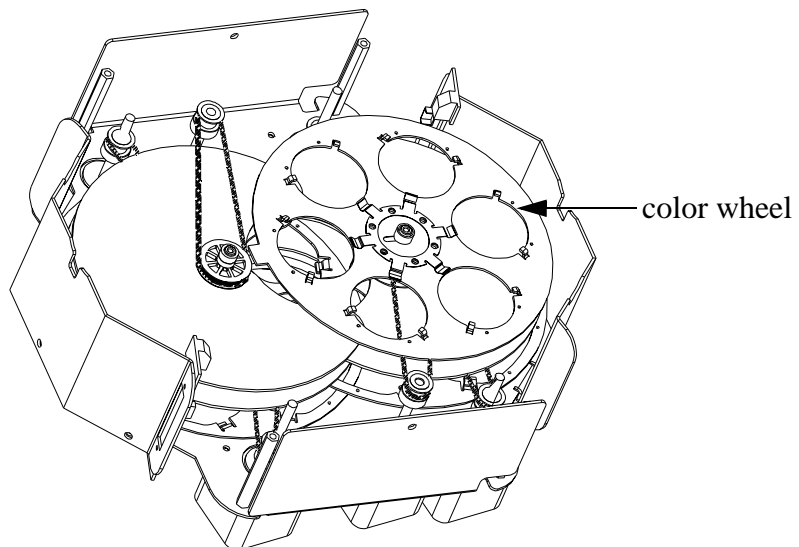

Figure B.4. Locating the Color Wheel
9. Lift the strobe assembly straight up and away from the remaining optical assembly. Refer to Figure B.4.